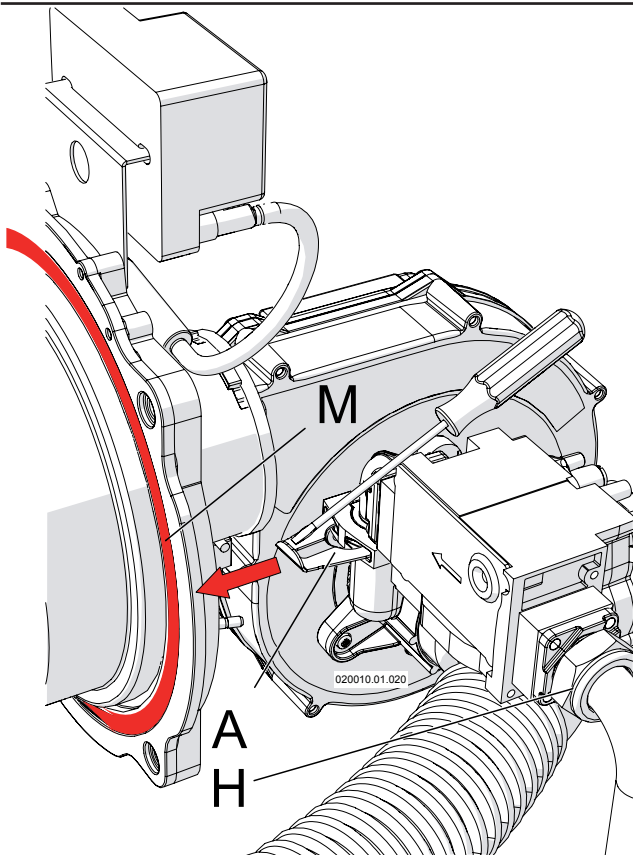
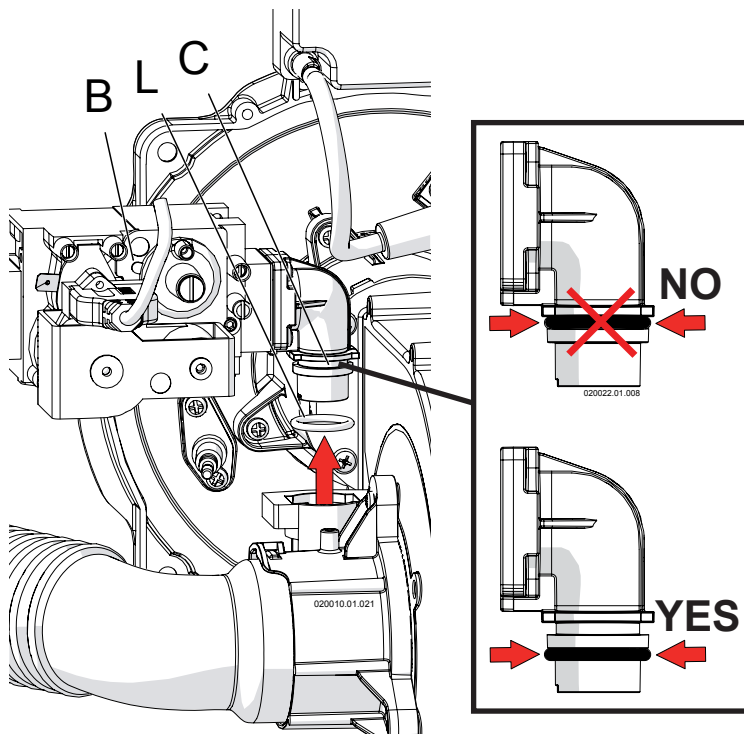

Figure 16-5 Nut and spring that fixes the gas valve
Figure 16-6 Remove the gas valve
- 7.- Unscrew nut "H" (Figure 16-5). Pay attention to the gasket between nut "H" (Figure 16-5) and the gas valve;
- 8.- Take away the spring "A" as per Figure 16-5. Help yourself with a screwdriver;
- 10.- Remove the gas valve from its position (see Figure 16-6). Take care attention to the o-ring "L" of Figure 16-6;
- 17.- Replace gasket "M" as per Figure 16-5 (Part number for this gasket is in Section 15). Take care that the gasket and its site are clean;
⚠ WARNING!!! Pay attention to the gasket "M" (Figure 16-5) during reassemble. When finished, perform a leakage test with the burner firing. Always use an approved leak detection method. Failure to comply with this warning can cause fire, extensive property damage, severe personal injury or death!
- 18.- Reassemble the components by proceeding in reverse order. Pay attention in the reinstalling of gasket between nut "H" of Figure 16-5 and of the o-ring "L" of Figure 16-6. These must be in good condition. If not they must be replaced with;